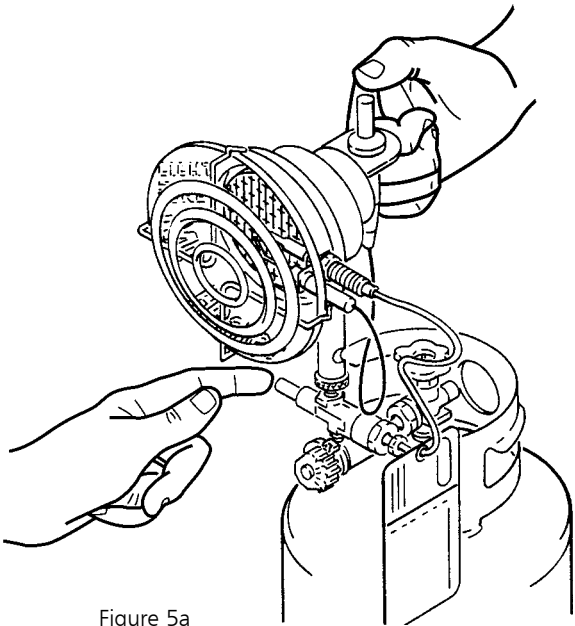

Figure 5a
- E. To light MH12TS, press "Sparklite" ignitor Safety Shutoff Valve button at the same time. (See Fig 5a) Prior to pressing "Sparklite" igniter. After the heater is lit, continue to hold valve button in for 30 seconds, then release the button slowly.